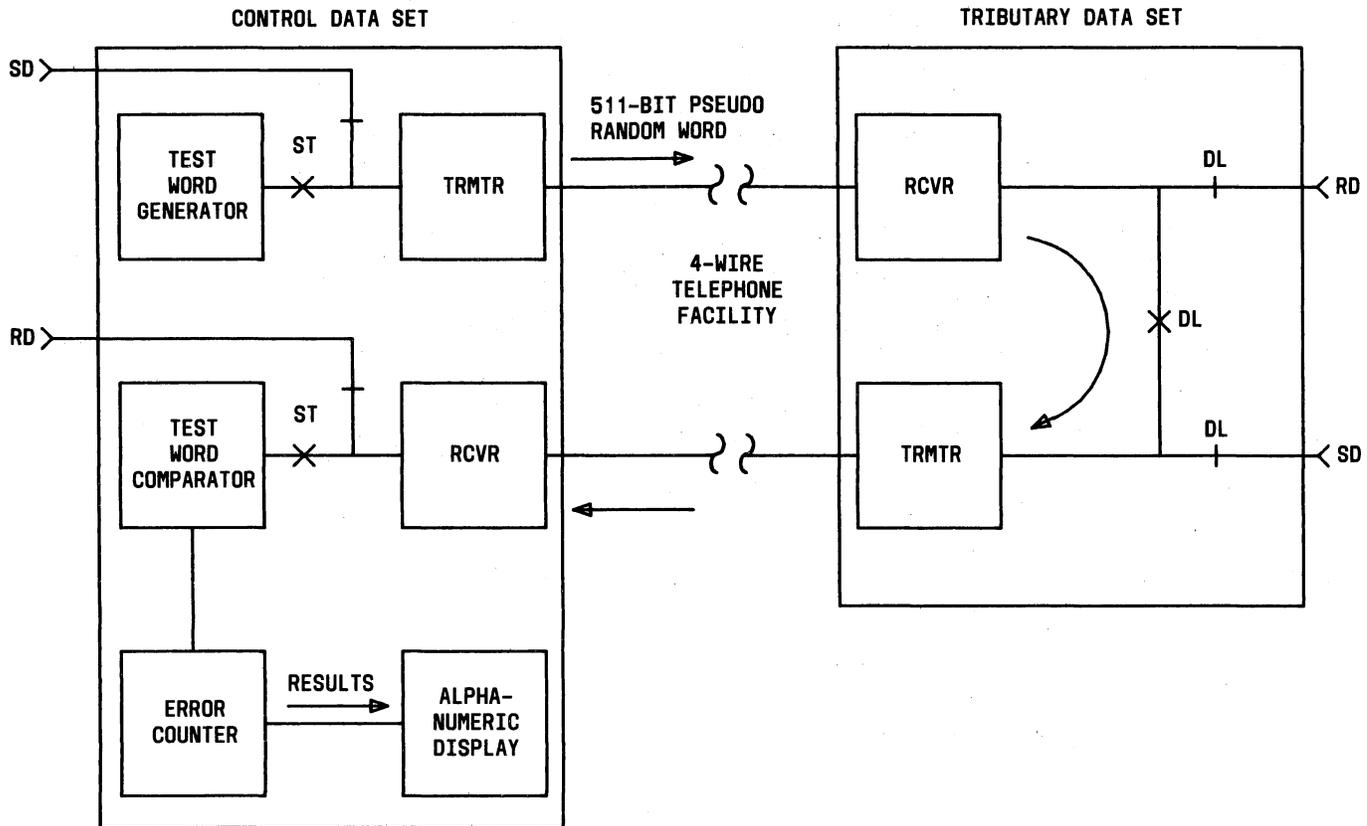

Fig. 20—Digital Test
**3.63** Digital test (Fig. 20) is performed between the control and a selected tributary data